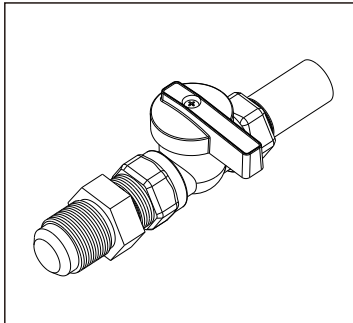

Figure 3
1. Connect the Coupling to Natural Gas (NG) Piping. Make sure there is a NG Shut Off Valve present (Figures 3 and 4). Make sure the Coupling is NOT connected to the 25ft NG hose before proceeding.